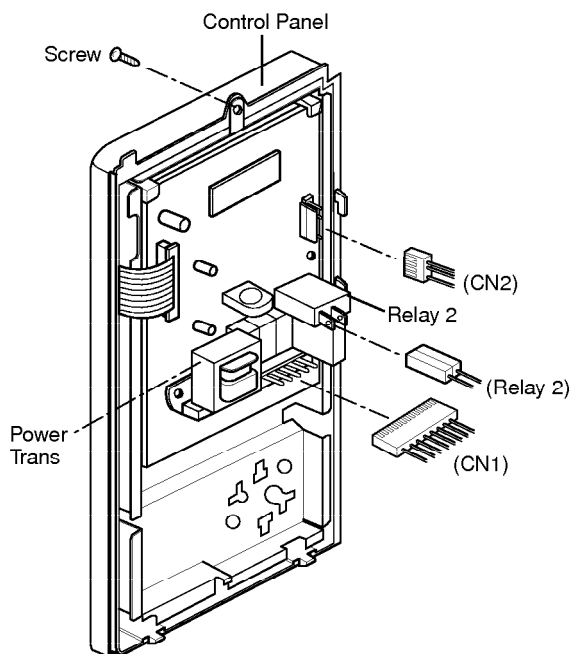

Figure 8
A. REMOVING POWER AND CONTROL CIRCUIT BOARD (Figures 8, 9 and 10)
- (1) Remove 1 screw securing the control panel assembly to the oven cavity. (Figure 8)
- (2) Remove the control panel with pushing it upward.
- (3) Remove the two connectors (CN1, CN2) and wire leads (Relay2) from the circuit board.